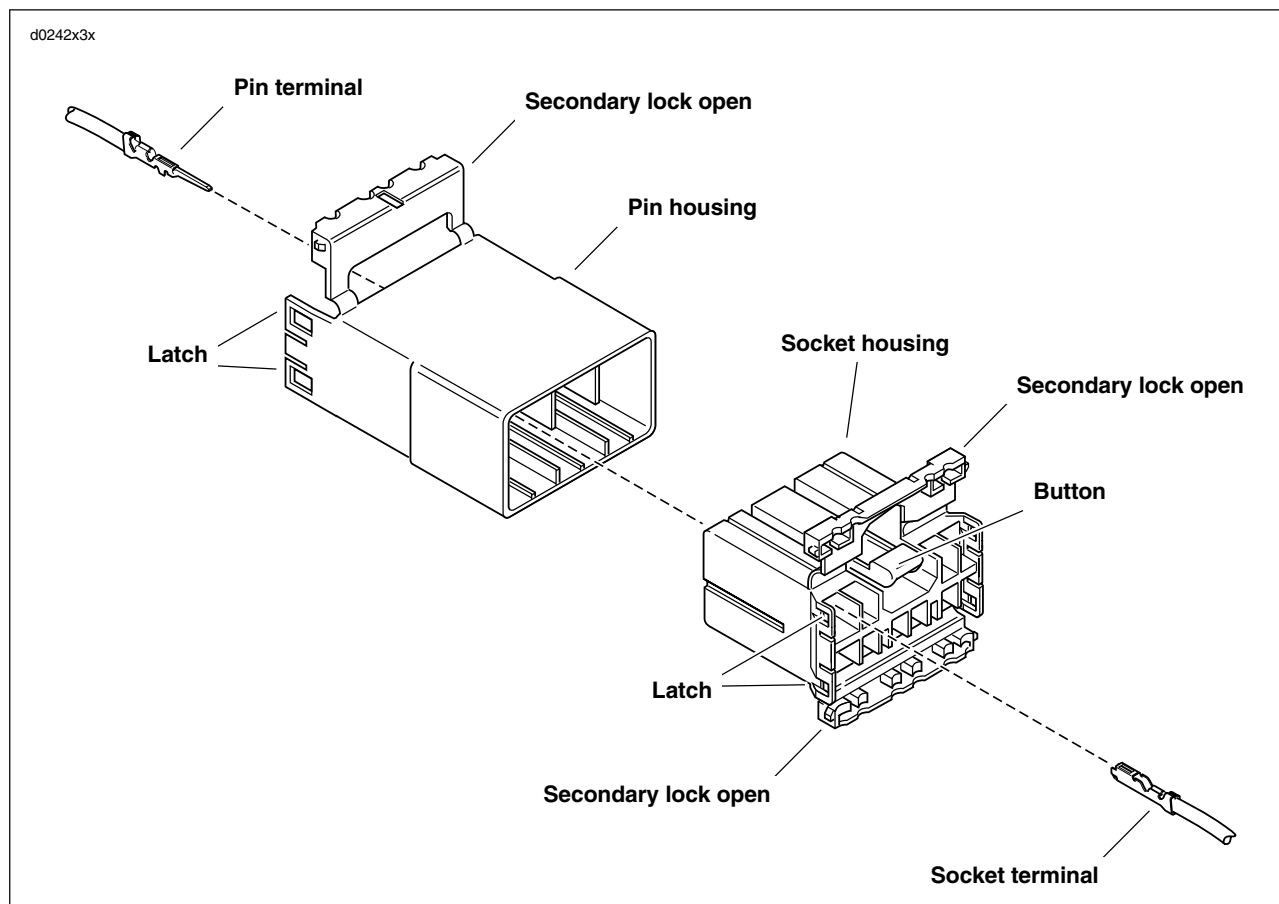

Figure B-1. 10-Place Amp Multilock Connector
5. See Figure B-1. With the flat edge against the terminal, insert the pick tool (Snap-On TT600-3) into the cavity until it stops. Pivot the end of the pick away from the terminal (locktab is inside housing) and gently tug on wire to pull terminal from chamber. Do not tug on the wire until the tang is released or the terminal will be difficult to remove. A "click" is heard if the tang is engaged but then